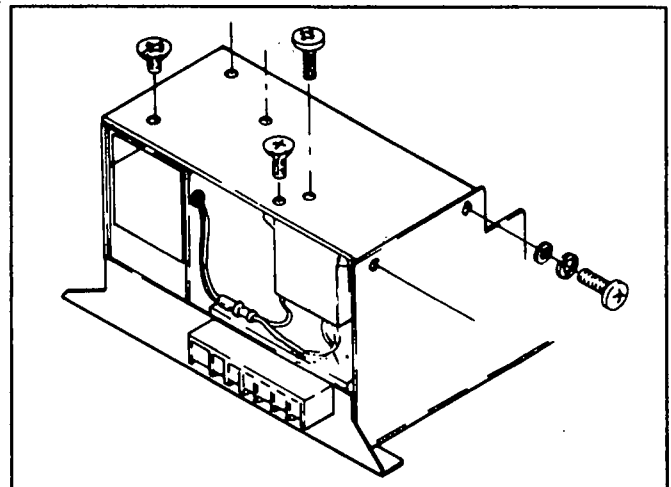

Figure 3. Removal of Inner Cover Screws
2. See Figure 3. Remove four (4) screws that retain the inner cover.